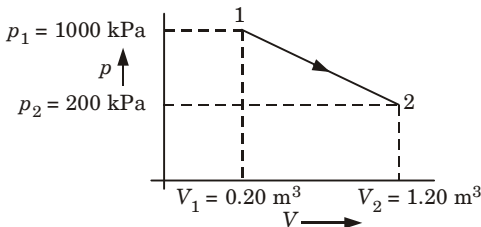

Fig. 2.16.2.
3. Net work done, from Fig. 2.16.2.